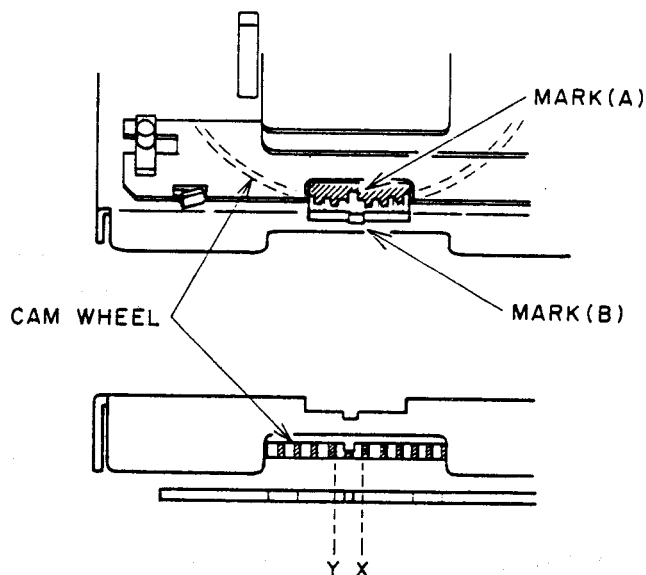

Fig. 5-2
- 5) Next, while pressing up slightly on the decoration stopper on the upper right and left sides, move the lid decoration forward and down, disengaging it from the holders and guide shafts on the bottom left and right. (See Fig. 5-2.)
- b. Adjust VR1 slightly so that the center of marker (A) coincides with the center of marker (B) (should be within the range between X and Y) at STOP modes as shown on Fig. 5-2. (The marker (A) on the CAM WHEEL can be seen clearly by lighting it from the back.)